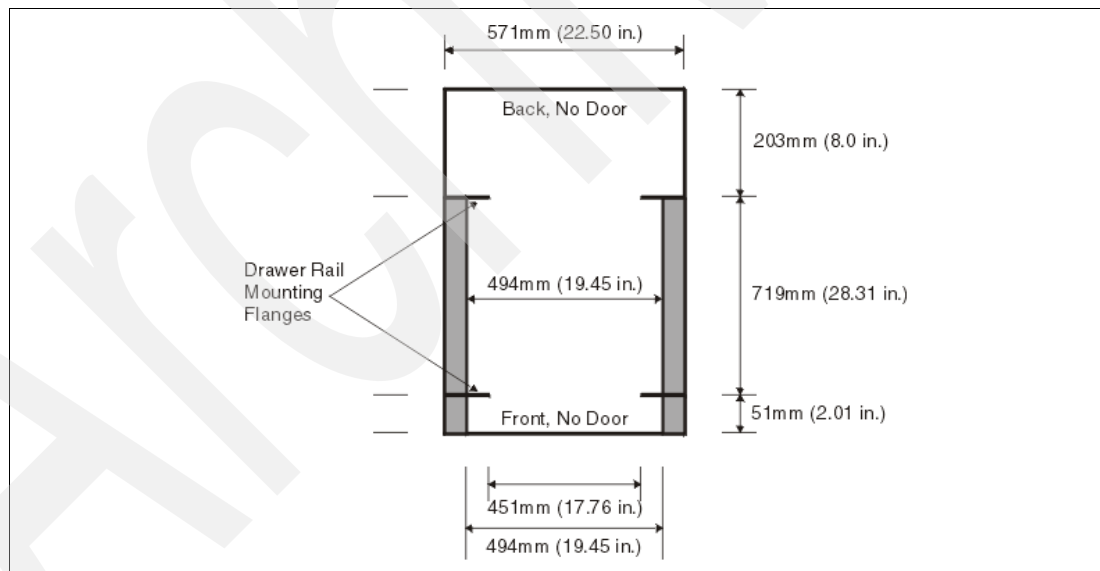

Figure 1-3 Top view of non-IBM rack specification dimensions
- The front rack opening must be 451 mm wide + 0.75 mm (17.75 in. + 0.03 in.), and the rail-mounting holes must be 465 mm + 0.8 mm (18.3 in. + 0.03 in.) apart on center (horizontal width between the vertical columns of holes on the two front-mounting flanges and on the two rear-mounting flanges). See Figure 1-3 for a top view showing the specification dimensions.